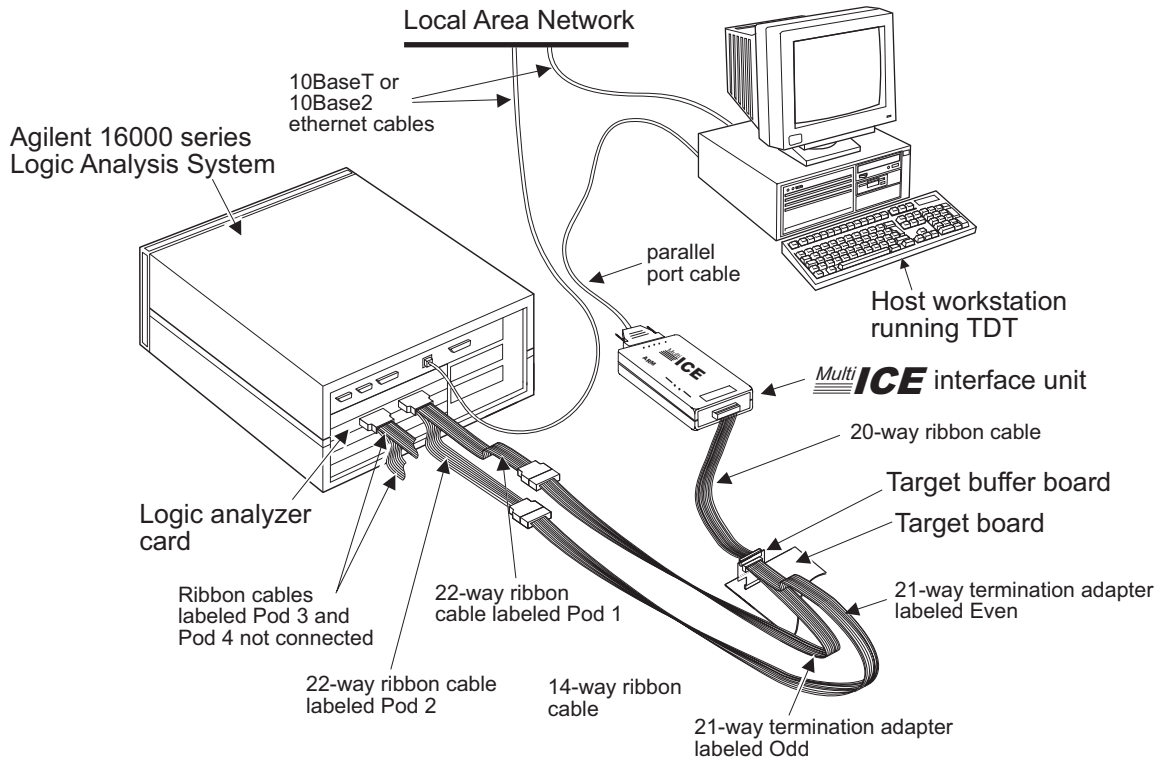

Figure A-4 Agilent Trace Port Analyzer and Multi-ICE Version 2.0
4. Connect up the rest of the hardware as shown in Figure A-4 on page A-11.